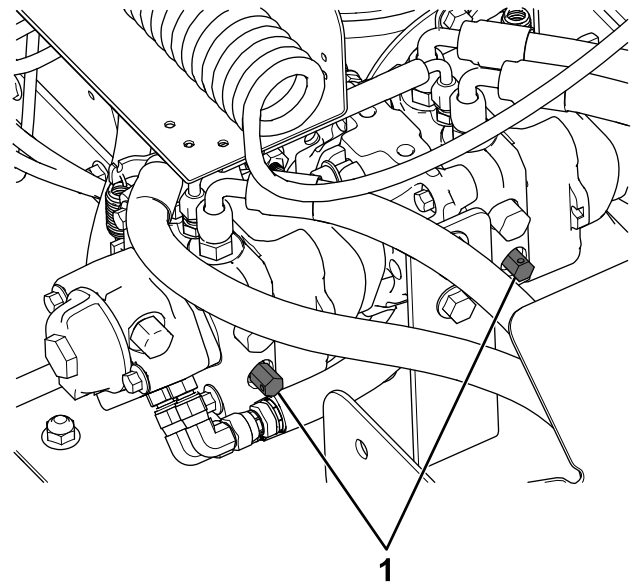

Figure 27
1. Open the bypass valves on the hydraulic pump by turning them counterclockwise 1-1/2 turns (Figure 27).